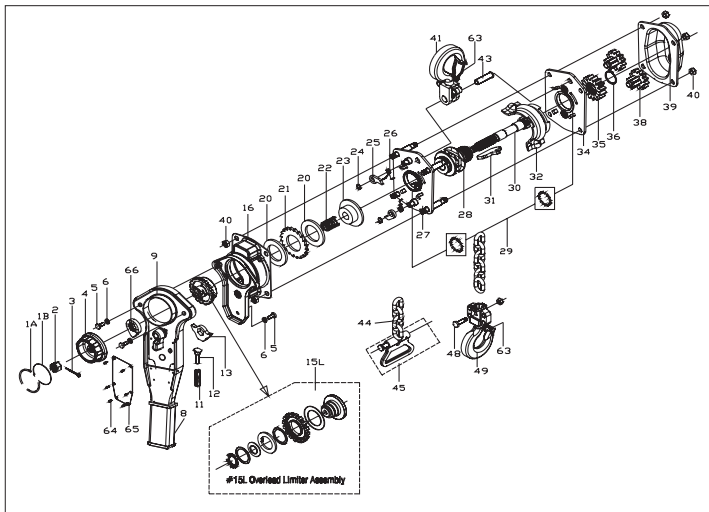

fig.8A
11. Refer to fig.8A & 8B, product exploded view for part details.
4. During the assembly of the brake side, respect the brake part order as shown in the exploded view (see fig.8A & 8B).